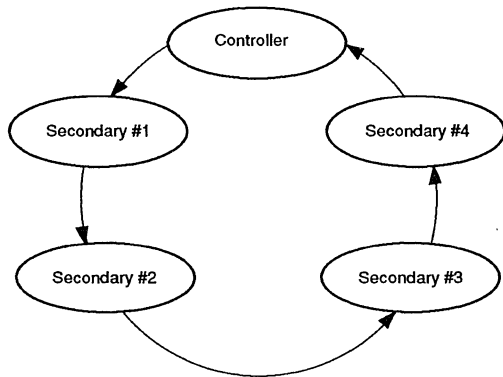

Figure 10. An SDLC Loop
**SDLC Loop Mode.** The ESCC supports SDLC Loop mode in addition to normal SDLC. In an SDLC Loop, there is a primary controller station that manages the message traffic flow on the loop and any number of secondary stations. In SDLC Loop mode, the ESCC performs the functions of a secondary station while an ESCC operating in regular SDLC mode acts as a controller (Figure 10). SDLC loop mode can be selected by setting WR10 bit D1.